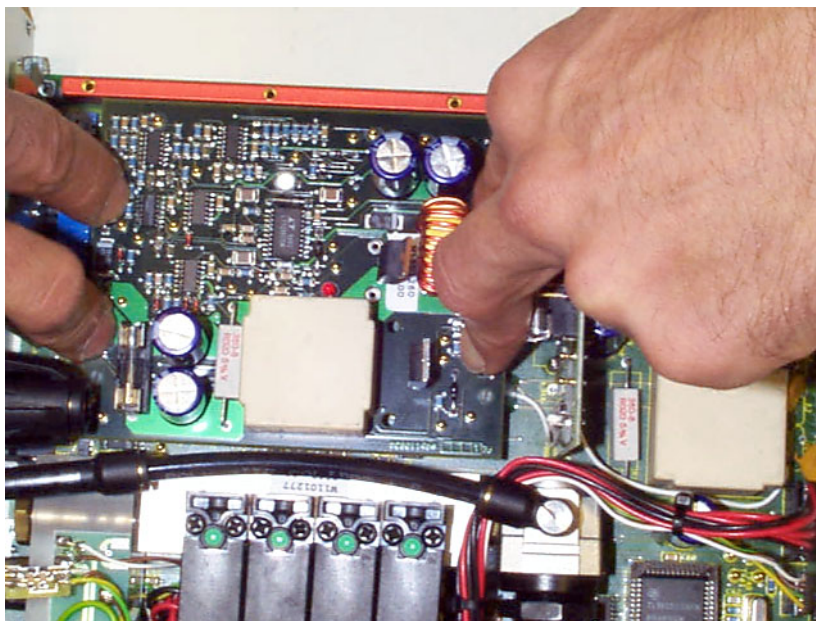

Figure 2.4. Place the option board
5. Hold the printer circuit (W1101455) over the main printed circuit, the big male connector on the bottom side of the printed circuit must face the same size female connector of on the top main printed circuit. The 4 plastic spacers must be pushed carefully in the corresponding holes of the main board until they are locked (see **Figure 2.4.** on **page 21**).
5. Hold the printer circuit (W1101455) over the main printed circuit, the big male connector on the bottom side of the printed circuit must face the corresponding female connector on the component side of the main printed circuit. The 4 plastic spacers must be pushed carefully in the corresponding holes of the main board until they are locked (see **Figure 2.4.** on **page 21**).